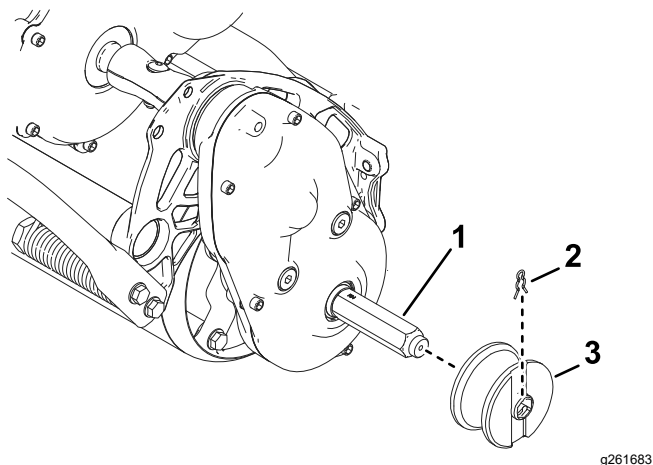

Figure 29
- **Rail Kit:** Install the rail wheels onto the hex shafts (Figure 29).